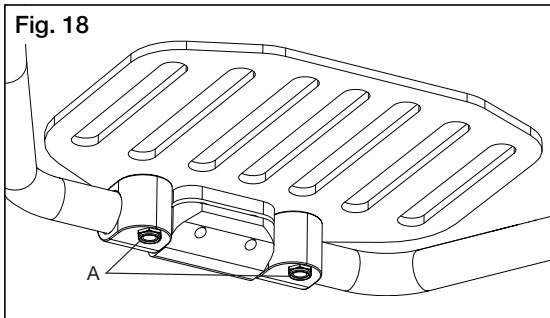

Fig. 18
1. Loosen, but do not remove, the two M6 screws (Fig. 18:A) securing the footplate to the footrest clamp with a 4mm Allen wrench.
3. Select the desired position and retighten the two M6 screws (Fig. 18:A) to 80 in./lbs.